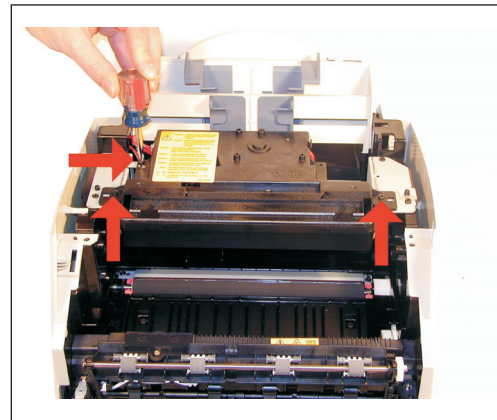

Figure 32
27) Remove the three black screws from the laser unit. Carefully flip up the laser unit so that the metal tab is exposed. See Figure 32